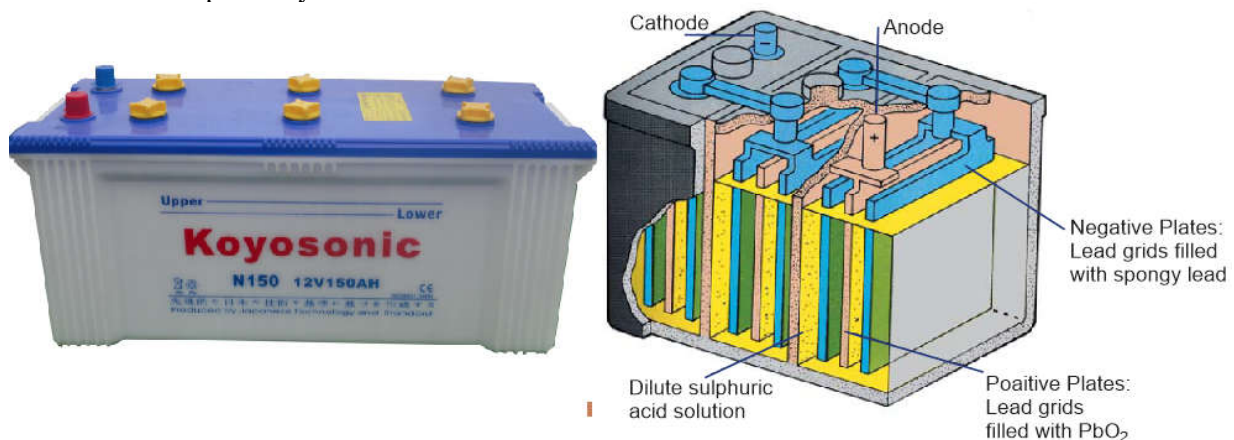

Fig. 10.13: Lead-acid accumulator
In a lead-acid accumulator, there is an arrangement of cells. Each cell has one group of positive plates made of lead (IV) oxide and one group of negative plates made of spongy lead. The plates are dipped in dilute sulphuric acid, the electrolyte. The sulphuric acid has a concentration of about 38% with a relative density of about 1.84. Fig. 10.13 shows the appearance and the layout of a lead-acid accumulator respectively.